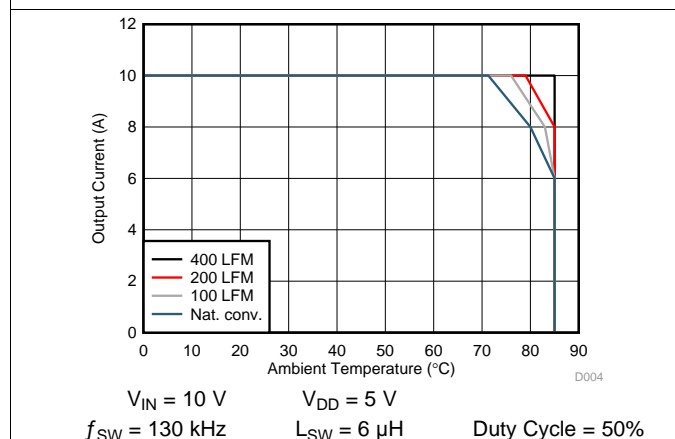
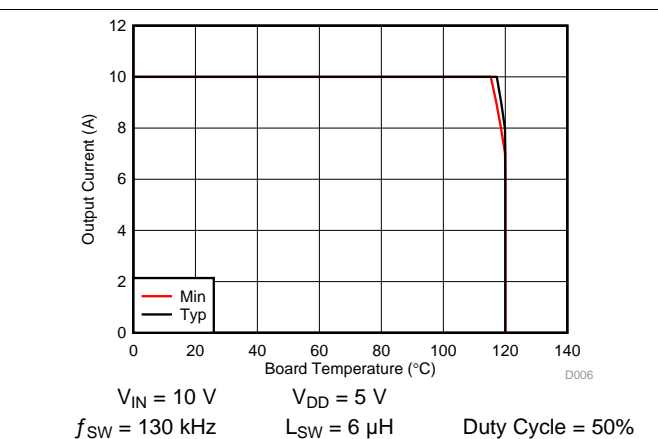

Figure 5. Safe Operating Area – PCB Horizontal Mount (1)
Figure 6. Typical Safe Operating Area
The SOA curves in the bq500101 datasheet give engineers guidance on the temperature boundaries within an operating system by incorporating the thermal resistance and system power loss. Figure 5 and Figure 6 outline the temperature and airflow conditions required for a given load current. The area under the curve dictates the safe operating area. All the curves are based on measurements made on a PCB design with dimensions of 4.0" (W) x 3.5" (L) x 0.062" (T) and 6 copper layers of 1-oz. copper thickness.